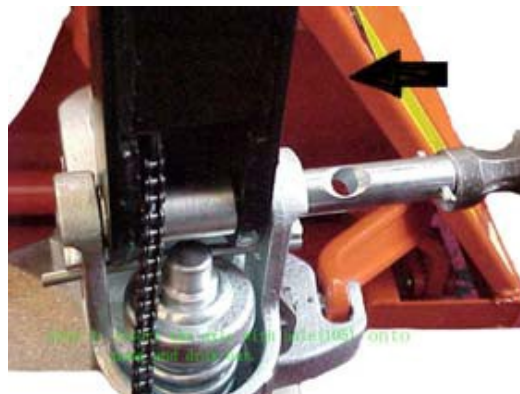

Fig. 2
2.1 Insert the Draw-Bar onto the Pump Piston (303), then use a hammer to insert the Axle with Hole (105S) into the Hydraulic Pump and Draw-Bar **from the right to left** (from the perspective of standing behind the unit). (See Fig. 2).